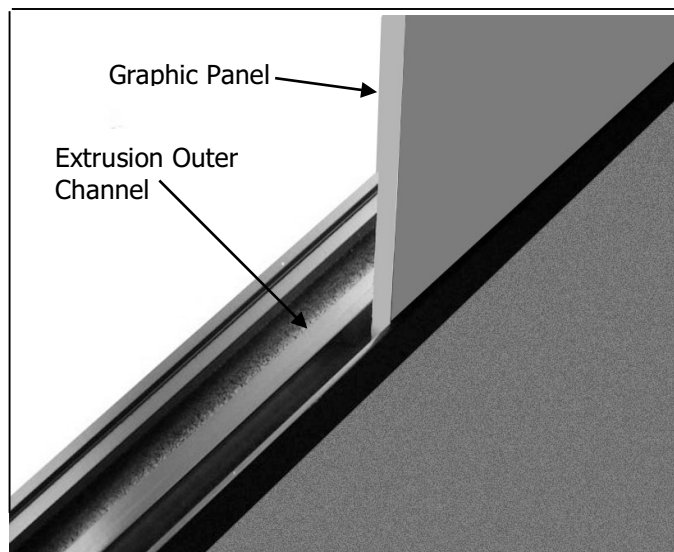

Figure 4: Light Box Channels
- 5.2.4 Slide the graphic panel into the outer most channels of the top and bottom extrusions. See Figure 4.
- 5.4.4 If replacing existing graphic, slide the panel out of the extrusion channels. See Figure 4.